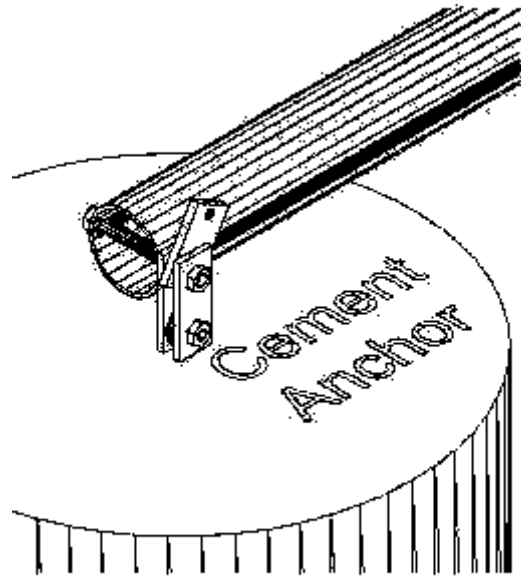
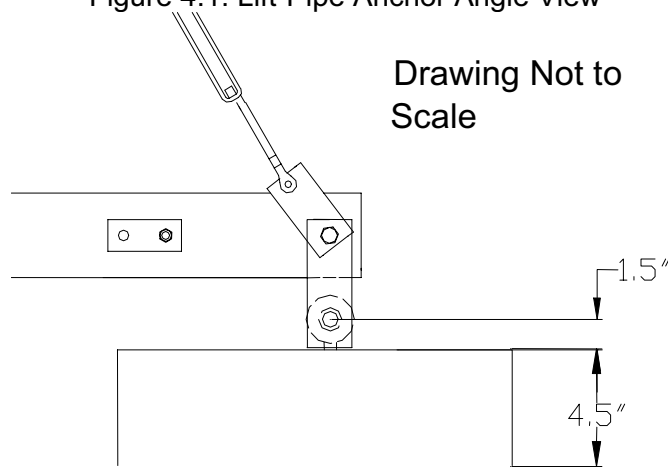
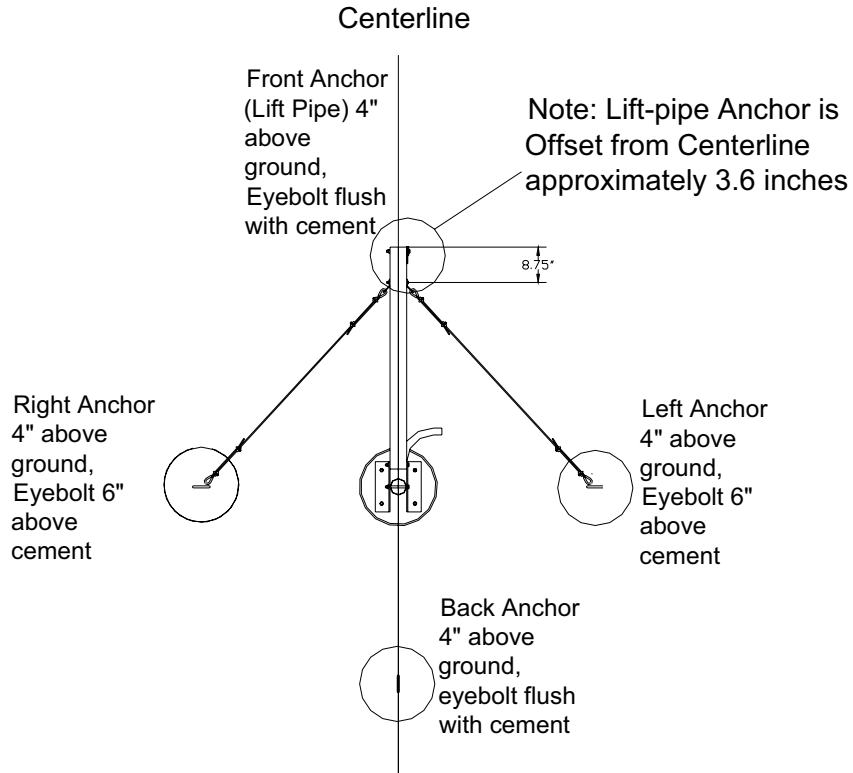
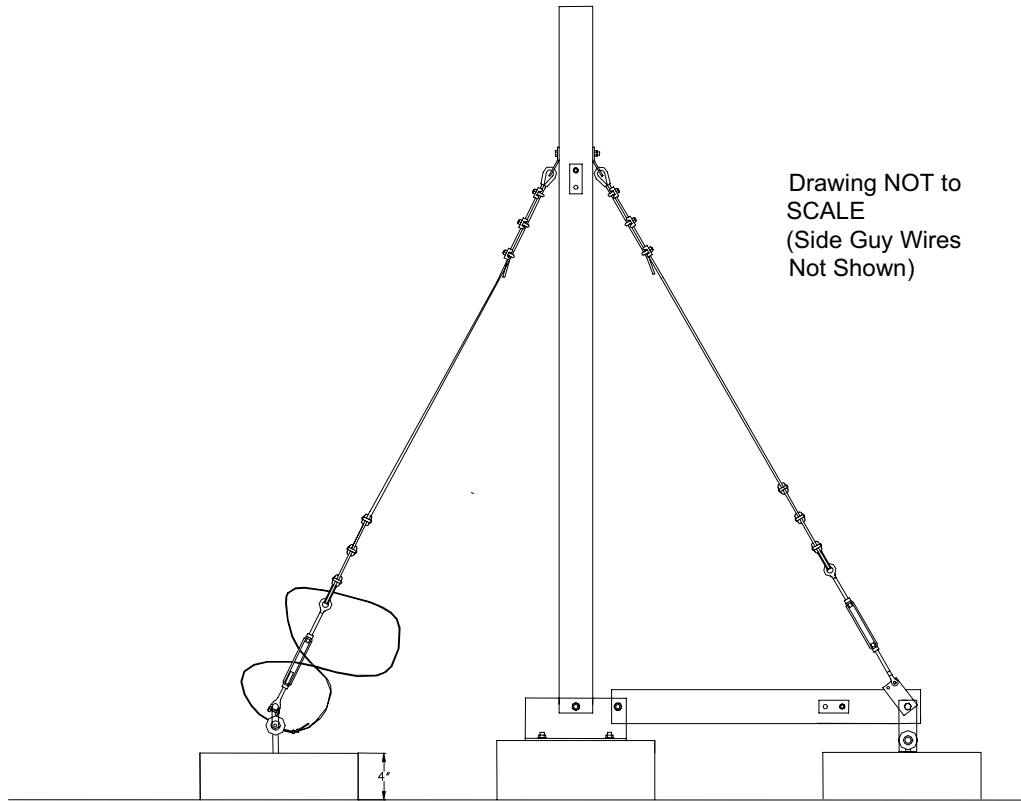

Figure 4.1: Lift-Pipe Anchor Angle View
Figure 4.2: Side View of Lift-Pipe Anchor (Eyebolt Flush with Concrete)
Figure 7: Birdseye View of Anchors and Lift-Pipe (Ginpole)
Figure 8: Tower Assembly Side View
The base anchor should be 6 inches above ground level. The four guy wire anchors should be 4 inches above ground level (see Figure 2). The two side anchors should have the center of the 3/4" x 12" eyebolt located **6 inches** above the top of the concrete anchor (see Figure 4.3). The backside anchor and the lift-pipe anchor should have the center of the 3/4" x 8" eyebolts **1.5 inches** above the concrete anchor (see Figure 4.2). The lift anchor has hardware and plates that connect it to the lift-pipe anchor (see Figure 4.1 and 4.2), and if you do not level the anchors appropriately you will have problems installing the kit. Also, the anchor for the gin pole is offset to the side between 3 and 4 inches to accommodate the linkage hardware (see Figure 7). See Figure 4.2 and Figure 8 for details.
The last hole to be drilled is the one in the gin pole that connects it to the steel anchor links (see Figure 4.2). This hole cannot be drilled until the anchors are in place and the assembled gin pole is bolted to the base angles.
- Fasten the three steel plates to the gin pole with the 7/8" x 8" hex bolt as shown in Figures 4.1 & 4.2.
- Attach the side anchor guy wires to the gin pole as shown in Figure 7.
- The last guy wire is the one connecting the gin pole to the tower pipe. For now, attach this wire to the turnbuckle attached to the gin pole (see Figures 4.2, 8, & 10). You will have an easier time attaching this cable to the tower pipe if you make a mark on the cable at the estimated point of attachment with the guy tabs on the tower pipe. This can be done by measuring appropriate amount of cable (see Table) and then bend the cable to mark it. This cable will eventually be attached to the tower pipe after the gin pole has been raised.
Figures 7, 8, 9.1 and 9.2 show details on how the guy wires should be assembled. Make sure you measure the length of the guy wires correctly, otherwise they will not be the proper length and you will spend much time resetting them.